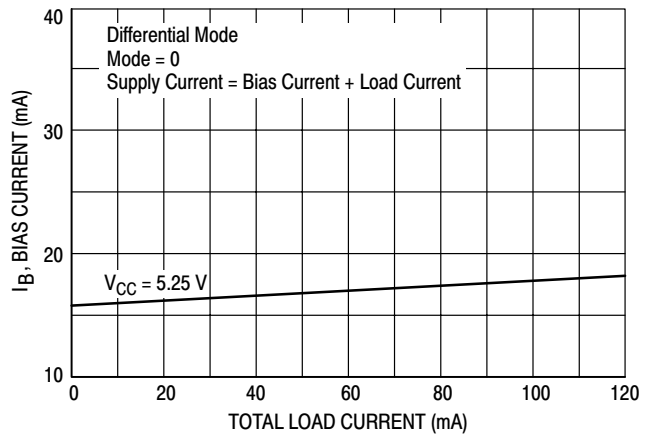

Figure 7. Internal Bias Current versus Load Current
V_{CC} requires +5.0 V, $\pm 5\%$, regardless of the mode of operation. The supply current is determined by the IC's internal bias requirements and the total load current. The internally required current is a function of the load current and is shown in Figure 7 for the differential mode.
- I_B = the internal bias current (Figure 7)